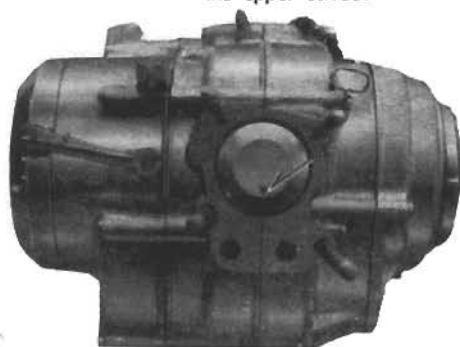

Fig. 3.21 Mounting piston
- b. When fitting a new piston ring, first check the clearance in the piston ring groove as shown in Fig. 3-21.